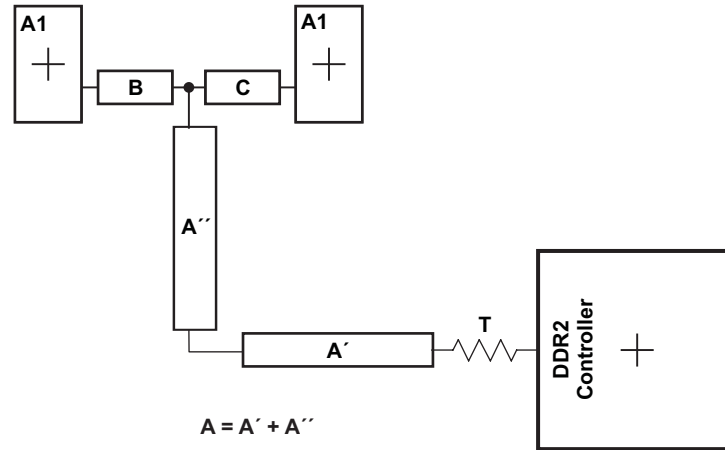

Figure 8-54. CK and ADDR_CTRL Routing and Topology
Figure 8-54 shows the topology of the routing for the CK and ADDR_CTRL net classes. The route is a balanced T as it is intended that the length of segments B and C be equal. In addition, the length of A ($A'+A''$) should be maximized.
- (1) The length of segment $A = A' + A''$ as shown in Figure 8-54.
- (2) Series terminator, if used, should be located closest to the device.
- (3) Center-to-center spacing is allowed to fall to minimum (2w) for up to 500 mils of routed length to accommodate BGA escape and routing congestion.
- (4) CACLM is the longest Manhattan distance of the CK and ADDR_CTRL net classes.